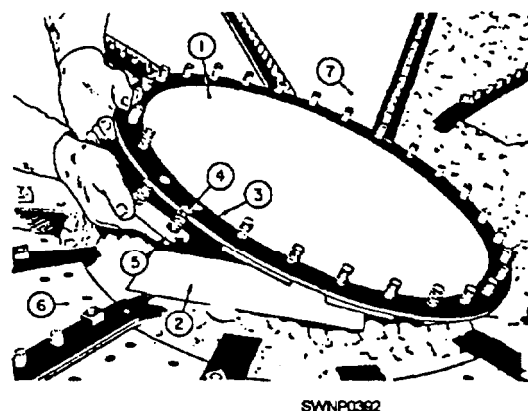
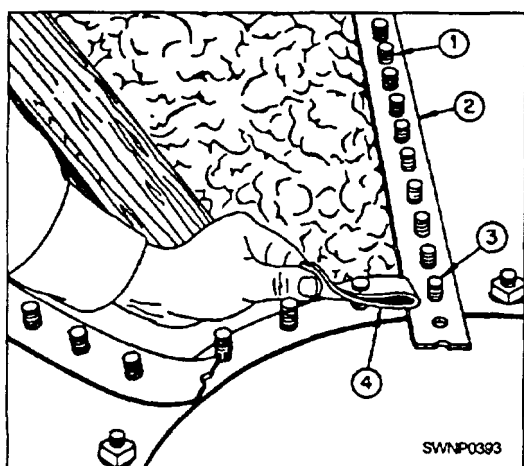

Figure 9-7.—Installation of the gasket the bolts, and the channels on the center bottom plate.
Figure 9-8.—Installation of bottom plates.
The center bottom plate (fig. 9-7) is a circular, flat steel plate. The tank bottom plates are attached to the outer circumference bolting circle. Before installation of the center bottom plate, make sure that it is not warped or broken. Check the bolt holes for bolt clearance. Clean the bolt holes of dirt or other foreign material where the center plate gasket is applied. Drive the center stake below the surface of the foundation and backfill the hole. Place the bolt-retaining boards around the outer circumference of the plate. Position the plate over the center stake. Place the gasket around the bolt circle of the center bottom plate. Insert two 1/2- by 1 1/2-inch bolts in the two bolt hole channel.
The tank bottom consists of 14 tapered, flat steel plates. Thirteen plates are plain, and one is soecial. All of the plates are interchangeable. When the bottom is completely installed, the plate pattern resembles a wheel. The first bottom plate (fig. 9-7, #7) has a bolt channel placed under each radial lap seam with 1/2-by 1 1/4-inch bolts (fig. 9-8). A strip gasket is placed along each seam. The seams are identified as right and left, facing the large end.
Starting at the large end of the plate (fig. 9-7), place a bolt channel under the right and left lap seams of the plate. Insert the bolts through all except the end bolt holes in the plate and channel. As the channels are put in place, position the bolt-retaining boards to facilitate installation of the gaskets. Install the gasket along the full length of the right and left lap seams. Allow a 1/2-inch bolt hole overlap at each end.
Cut six one-hole gaskets from the strip gasket material (fig. 9-8, #2). Force a one-hole gasket over and against the head of each flange bolt. Insert the bolts through the bolt holes in the inside flange half from the outside face of the flange with the heads of the bolts fitting into the cutouts provided. Lay bolt-retaining boards on the ground. Position the flange assembly with the bolt head resting on the boards. Slip a gasket over the bolts and force it down against the inside face of flange #7, using a round smooth, mouth tool. Work from the ground face of the plate (fig. 9-7, #7) and push the bolts through the bolt holes of the flanged opening. Place blocking under the bolt and flange assembly to hold it in position. Slip a gasket over the bolts and force it down against the inside face of the plate. Slip the outside flange half over the bolts with the machined face of the flange facing the gasket. Apply the nuts to the bolts. lighten the bolts. Remove the plate from the blocking and lay it on the tank foundation
**FIRST PLATE.**— Place the small end of the plate over the center plate bolts (fig. 9-8, #3). Apply finger-tightened catch nuts to the bolts inside the lap seams. Catch nuts are ordinary nuts applied to the bolts to hold the assembled plates in position.
**FIRST INTERMEDIATE PLATE.**— Wedge-shaped gaskets must be used wherever three plates are joined together. Before installation of the plate, you should place a wedge gasket (fig. 9-8, #4) over the gasket (fig. 9-7, #3) at the right edge of the first plate #7. Face the small end of the plates. Install
the plate and all of the remaining plates to the left of the first plate or in a counterclockwise direction around the tank foundation. Place the small end of the plate over the bolts (fig. 9-8, #3) with the right lap seam of the plate laid over the bolts (fig. 9-8, #1) in the left lap seam of the plate (fig. 9-7, #7).
**LAST PLATE.**— Install the last plate by spacing the lap seams over the lap seams of the next-to-last plate (fig. 9-9, #1) and the first plate (fig. 9-9, #2). Place the small end over the bolts (fig. 9-8, #3). This is a vital point in the tank bottom; make sure it is secure against leakage.